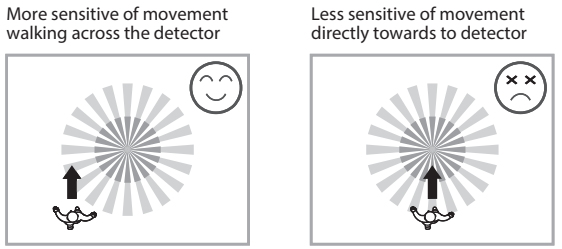

FIG.3
- 3.1.2 Note walking direction during testing. Sensor is more sensitive to movement across the detector and less sensitive to movement directly towards the detector which reduces the detection coverage (see FIG.3).